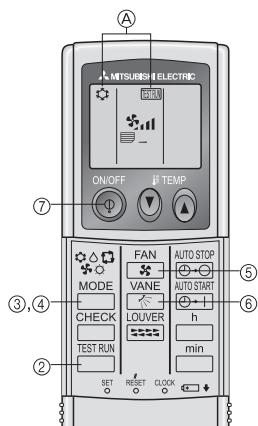

Fig. 6-2
6.2.2. Using wireless remote controller (Fig. 6-2)